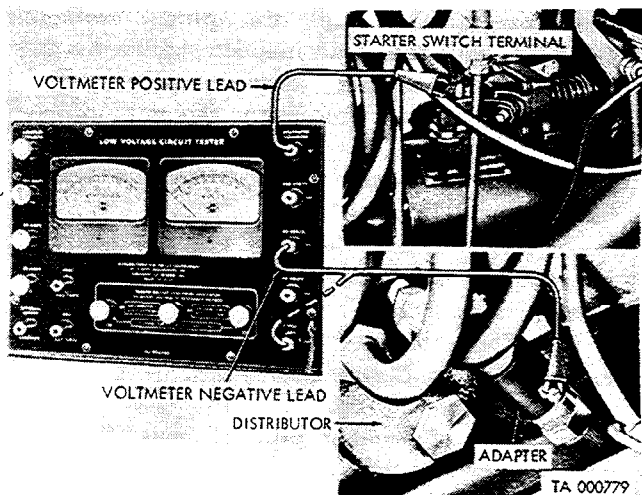

Figure 2-12. Checking ignition primary circuit resistance.
b. *Check Primary Circuit Resistance (Fig. 2-12).* Primary circuit resistance check is to determine the resistance through the ignition switch and the primary circuit.